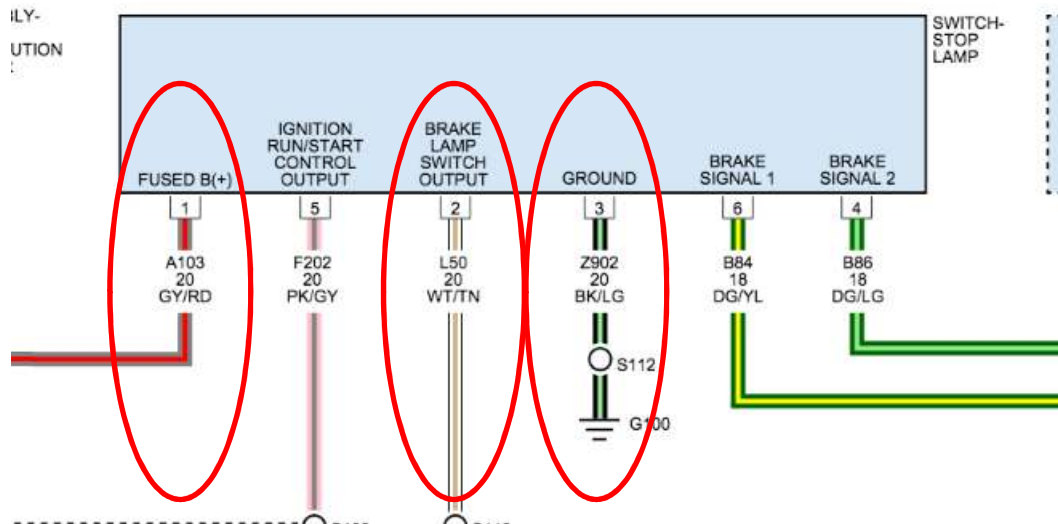

Figure 2 (Brake pedal position sensor)
1. Connect AUTO-BLiP BLACK wire to the **BLACK/LIGHT GREEN** wire on the brake sensor (**Figure 2**).
2. Connect AUTO-BLiP WHITE wire to the **GREY/RED** wire on the brake sensor (**Figure 2**).
3. Connect AUTO-BLiP BLUE wire to the **WHITE/TAN** wire on the brake pedal sensor (**Figure 2**).